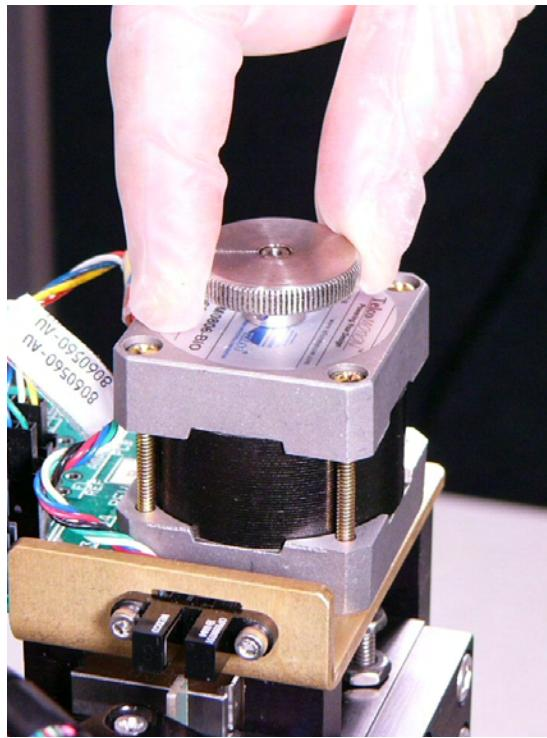

Figure 12: Raise the optics armature to ease access
3. Turn the optic arm knob clockwise to raise the optics armature as high as it will go (**Figure 12**).